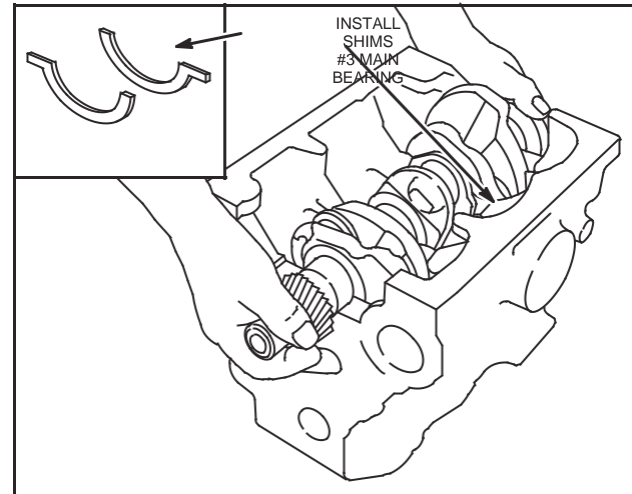

Fig. 3 – Installing Crankshaft
3. Install crankshaft with gear facing front of cylinder block, Fig. 3. Take care not to damage journals or bearings.